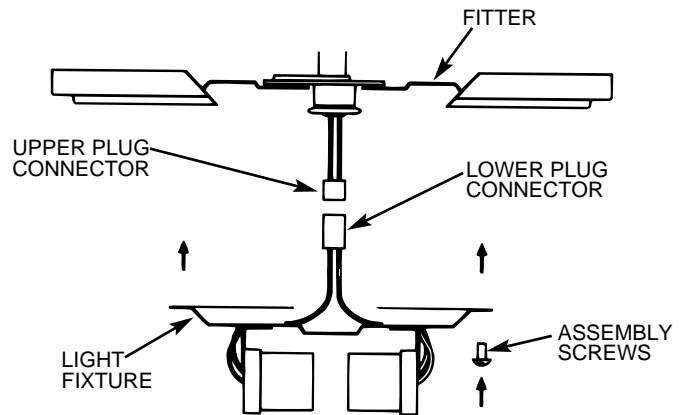

Figure 9A
B. Plug the upper and lower plug connectors together. Attach the light fixture to the fitter using (3) 3/8" long phillips round head screws with lockwashers. Tighten the (3) screws securely. See Figure 9A.